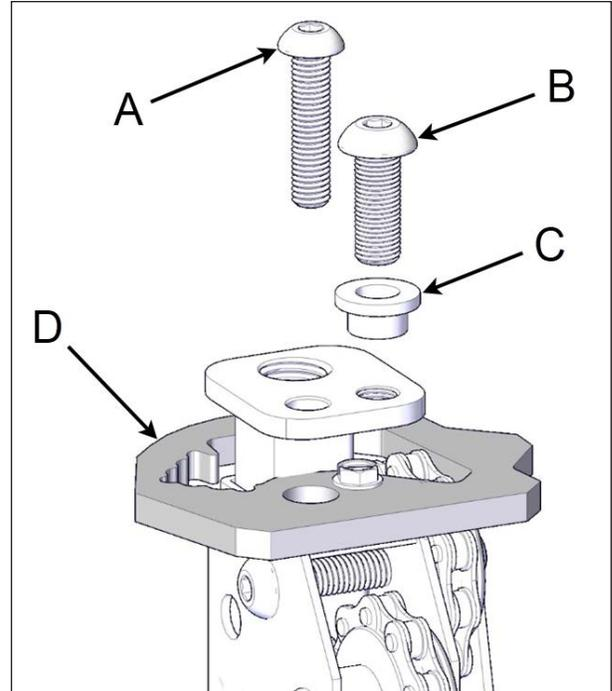

FIGURE 24: JACK LOCK SCREW
17. Once all the drive shafts are installed, the jack lock screws located at the top of the non-motor-side jacks can safely be removed. Remove the Allen M8 x 50 mm screws and keep them for future use, see Figure 24.
18. Unscrew the 3/8" x 1" Allen bolt with a 7/32" (5.5 mm) socket on the top of all four jack assemblies. Put these parts in a safe location, see Figure 24.